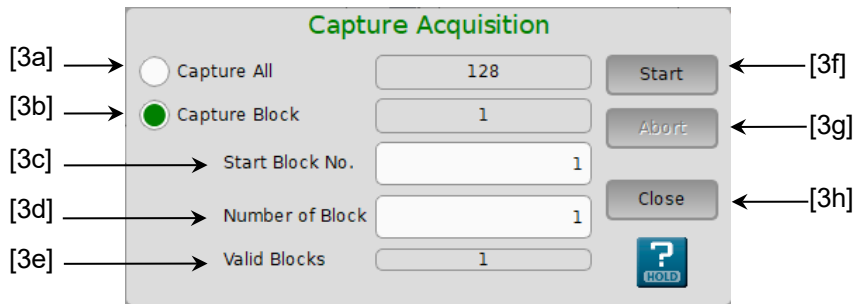

Figure 5.15.1-6 Capture Acquisition Dialog Box
**Figure 5.15.1-5 Buttons in Result Display Selecting Area for Selecting Capture Result Display Format****Table 5.15.1-5 Buttons for Selecting Capture Result Display Format**
After the captured data is acquired by touching **Acquisition**, touching **Bit Pattern** (refer to Figure 5.15.1-5) displays the Bit Pattern window. In this window, the captured test patterns are displayed in a bit pattern string so that Insertion Error and Omission Error can be distinguished.